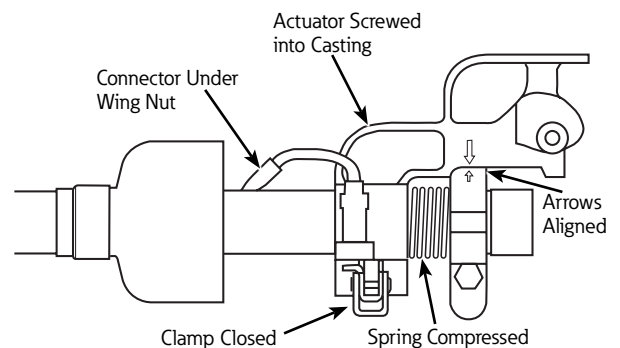

Figure 5. ASL in SET position.
2. Move the clamp over until it has gone "over center" and has latched. Refer to Figure 5.